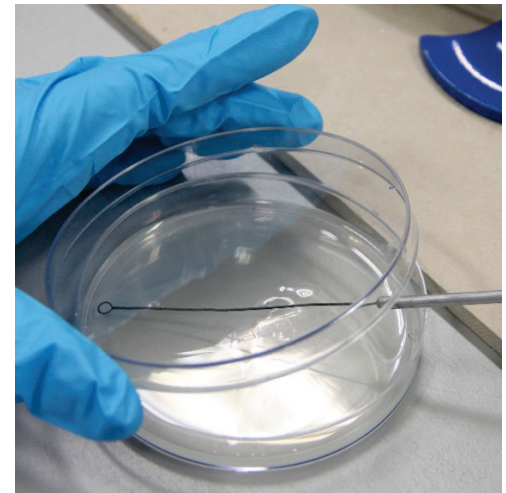

Fig. 5
6. Raise the lid of the agar plate to about 45° (Fig. 5)^ and put the inoculating loop onto the agar.